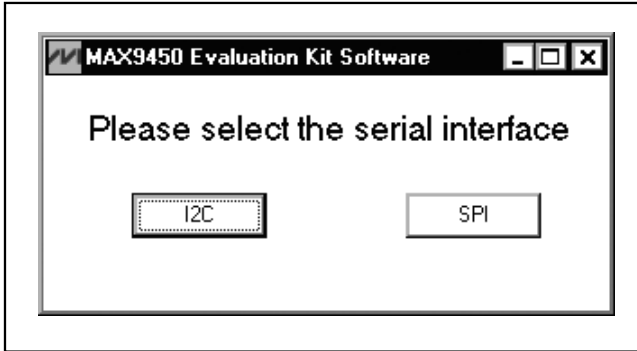

Figure 1. MAX9450 EV Kit Software—Interface Selection Window
- 14) Start the MAX9450 EV kit software by opening its icon in the **Start** menu. A small window appears, as shown in Figure 1.